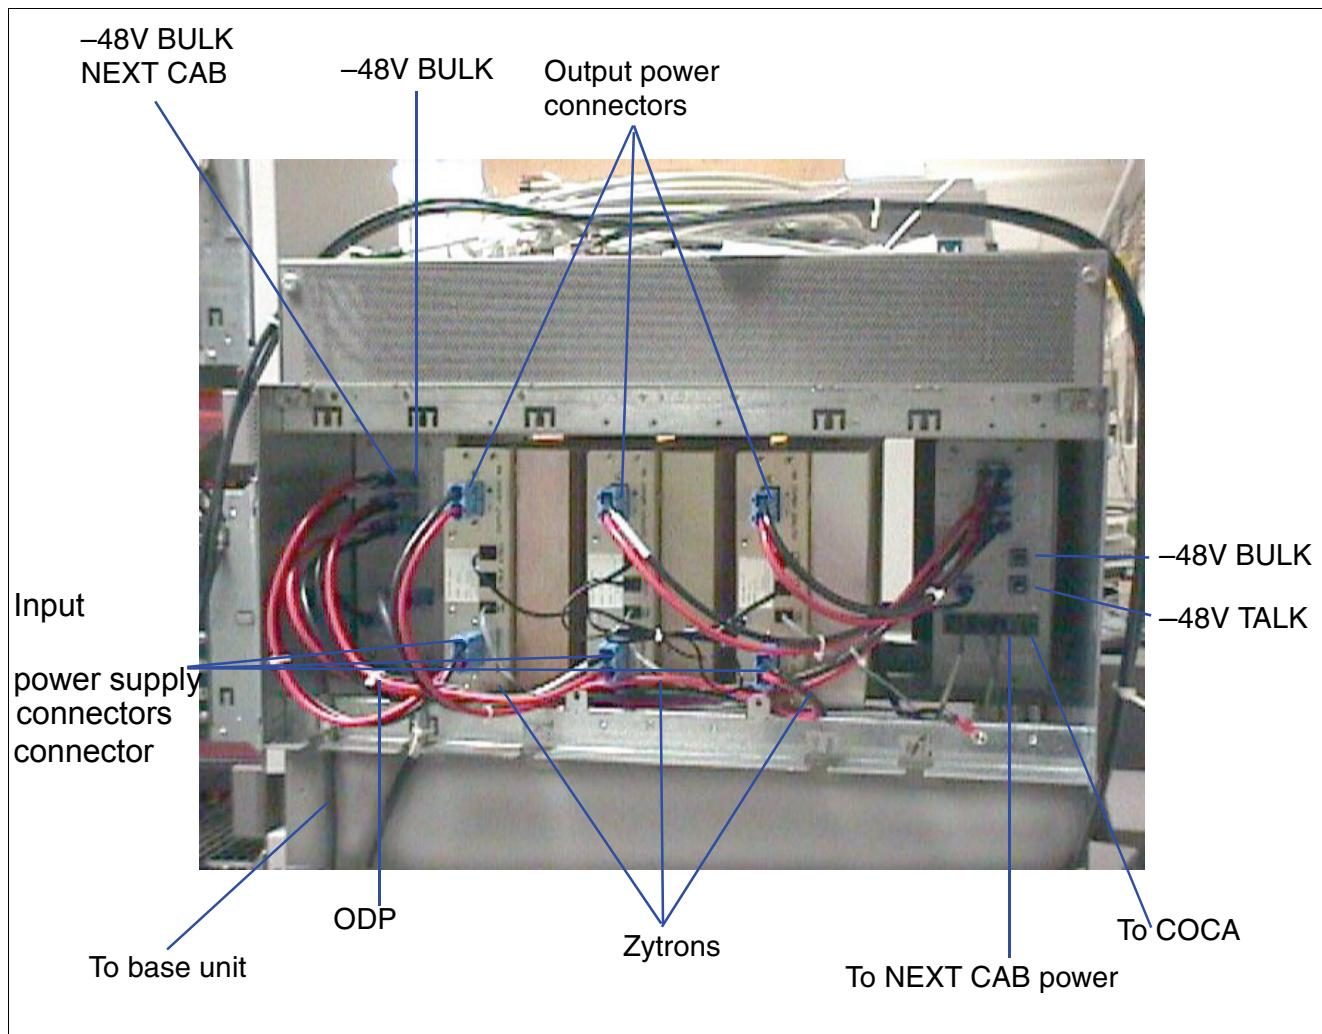

Figure 4-24 DD (Back View)
2. At the back of the ZYT, insert the volt-Ohm-millimeter (VIM) probes into the upper connector. See Figure 4-24 for assistance in determining the connections.